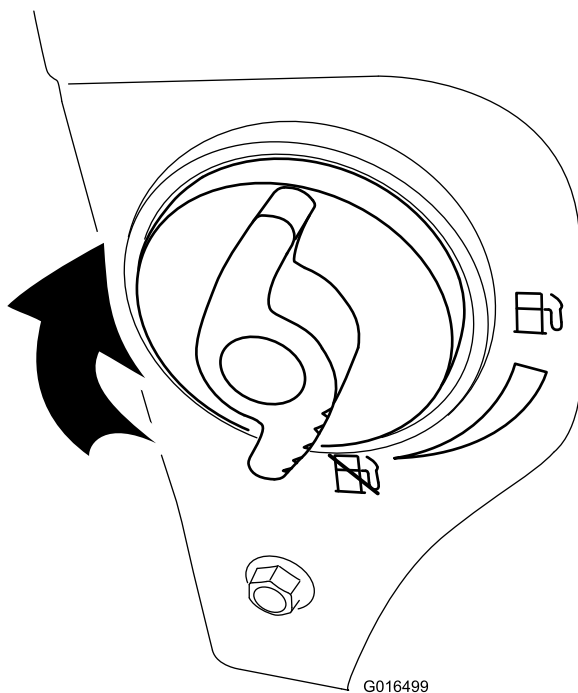

Figure 32
4. Close the fuel shutoff valve by rotating it clockwise (Figure 32).